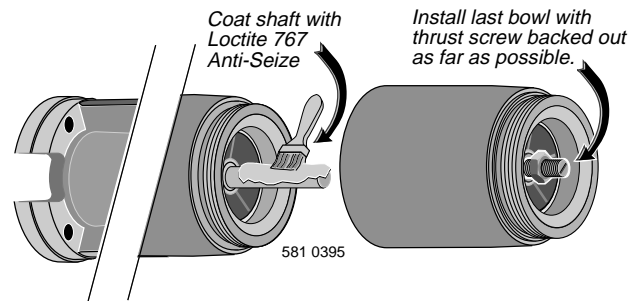

Figure 5: Coat shaft with Never-Seez and back out thrust bearing before installing last stage bowl.
10. Install Loctite 767 Anti-Seize Thread Compound¹ over end of shaft so that all of the shaft which projects into the discharge bearing is covered (see Figure 5).
11. Install last stage bowl; make sure that the thrust screw is backed off as far as possible in the discharge bearing (see Figure 5).